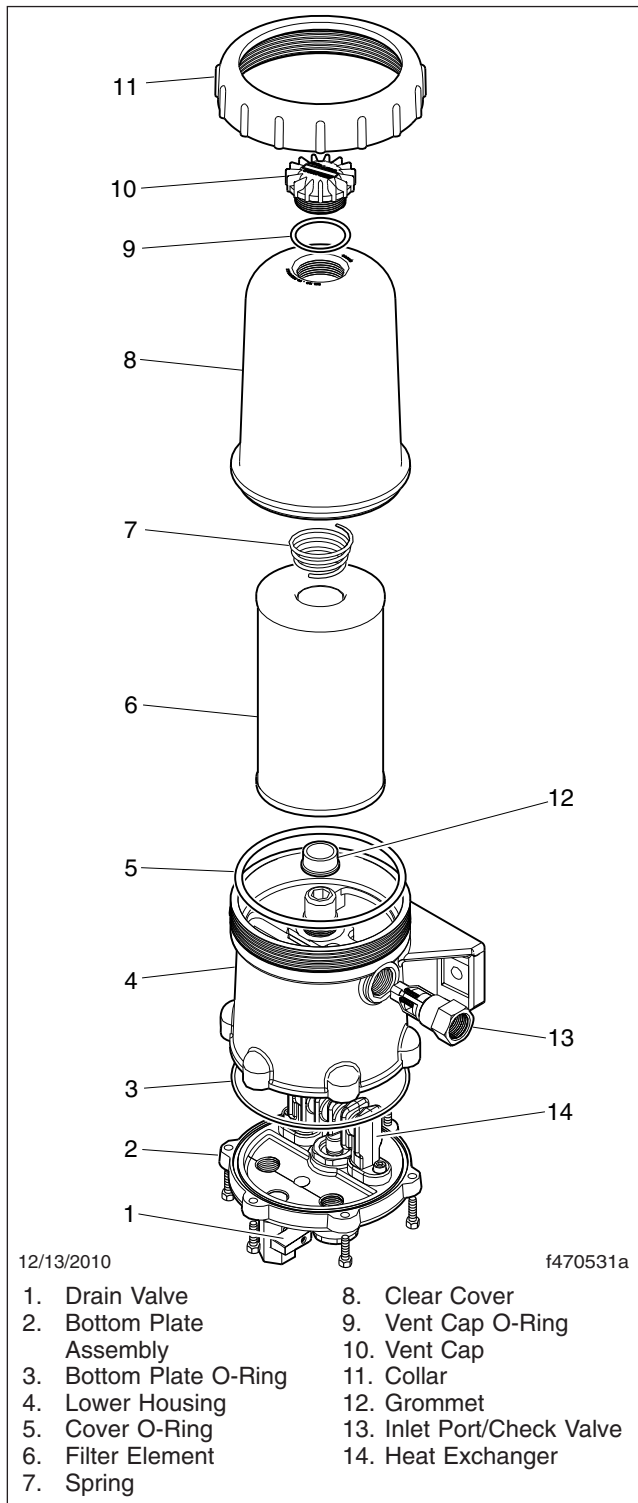

Fig. 2, DAVCO Fuel Pro 382
4. Remove the vent cap (**Fig. 2**, Item 10) and open the drain valve (**Fig. 2**, Item 1) to drain the fuel completely, then close the drain valve.
6. Remove the filter, cover O-ring, and vent cap O-ring. Dispose of them in an environmentally acceptable manner. See **Fig. 2**.